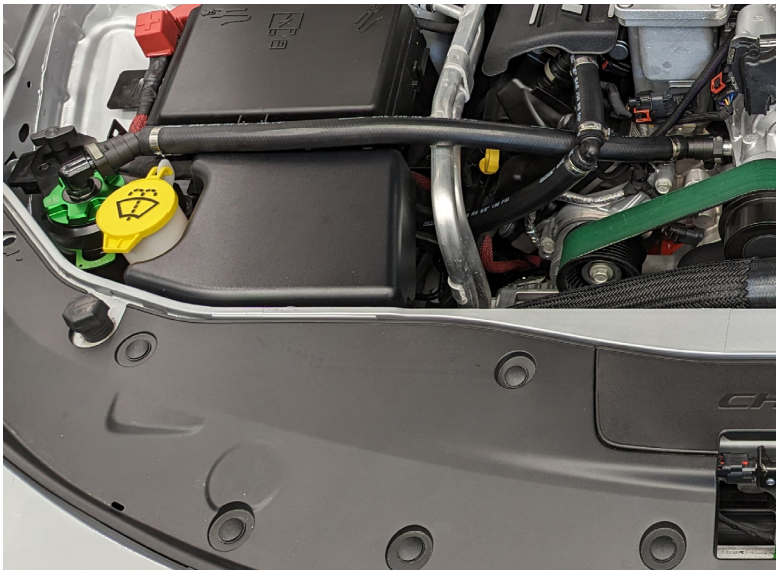

Figure 8 - Connecting the Hoses
5. Connect the hose with the two 45° fittings to the catch can “OUT” port and intake manifold as shown in Figure 8.
6. Connect the inlet hose to the valve cover as shown in Figure 8.